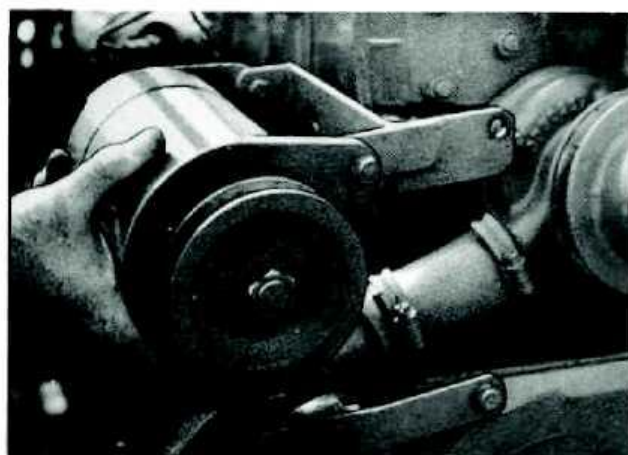

Fig. C.6 — Removing Generator and Bracket
4. Disconnect the generator leads, remove the two bolts and the nut coupling the generator bracket to the engine block and water pump. Remove the generator and bracket. (See Fig. C.6).